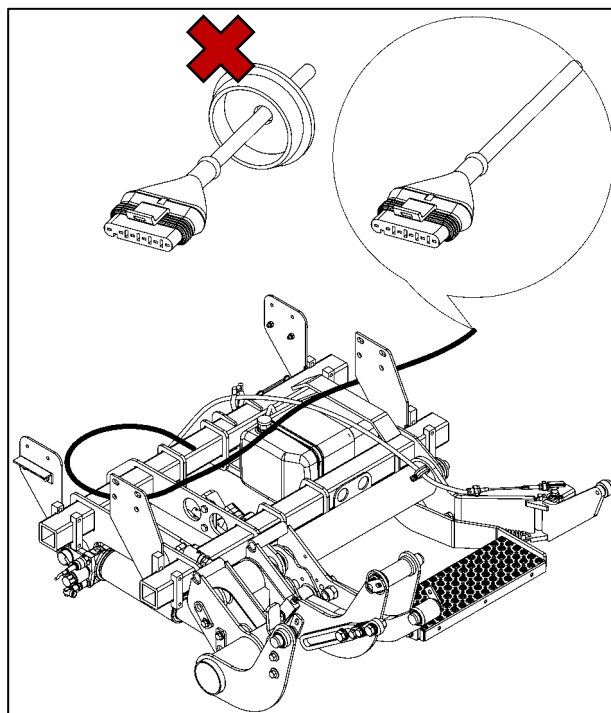

Fig. 20
- Route the control unit cable for control panel connection to the right as viewed in the forward direction of travel (see Fig. 20).